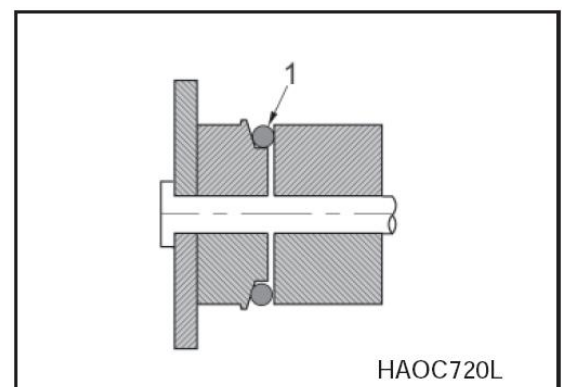

Fig.10
3. Remove old O-ring seal and install new O-ring seal (1, Fig. 10) onto bushing (2). Confirm that the O-ring seal on connecting rod cover (4) and bucket bushing has been thoroughly cleared.